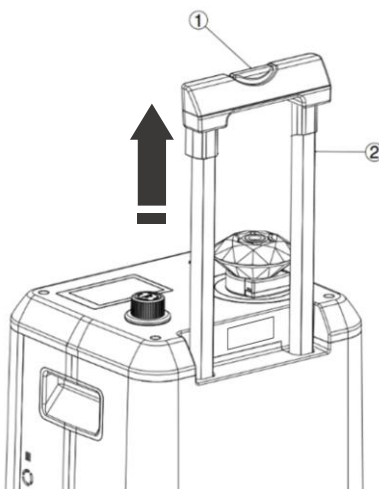

Figure 1.3
Step 1: Press the unlock button (1) on the transportation handle (2). Shown in Figure 1.3
Step 2: Move the transportation handle (1) to the required position.